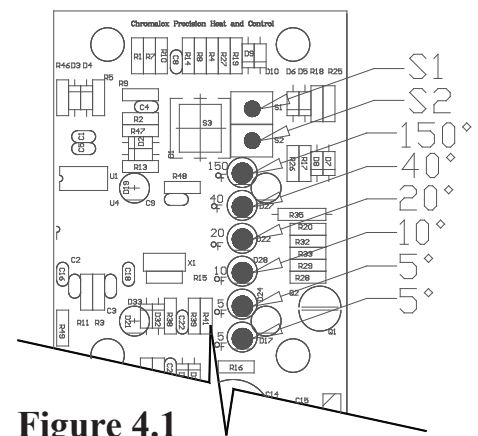

Figure 4.1
2. Locate the push button S1 and S2 on the rear of the control. (see Figure 4.1)